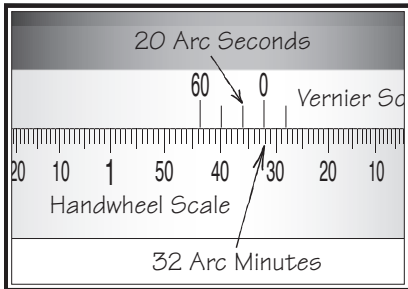

Figure 11. Handwheel and vernier scales aligned so that the table is at 16° 32' 20".
- Slowly continue to turn the handwheel until the 32' mark on the handwheel scale aligns with the 0° mark on the vernier scale (see the illustrated example in **Figure 11**).
Note: **Figure 11** may not agree with the layout of the scales on your model. However, the use of these scales as instructed here is the same.